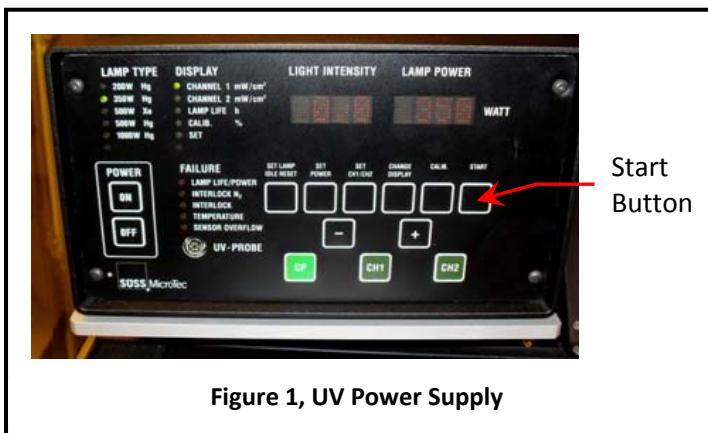

Figure 1, UV Power Supply
6.1.1 Press Start. See *Figure 1, UV Power Supply*.